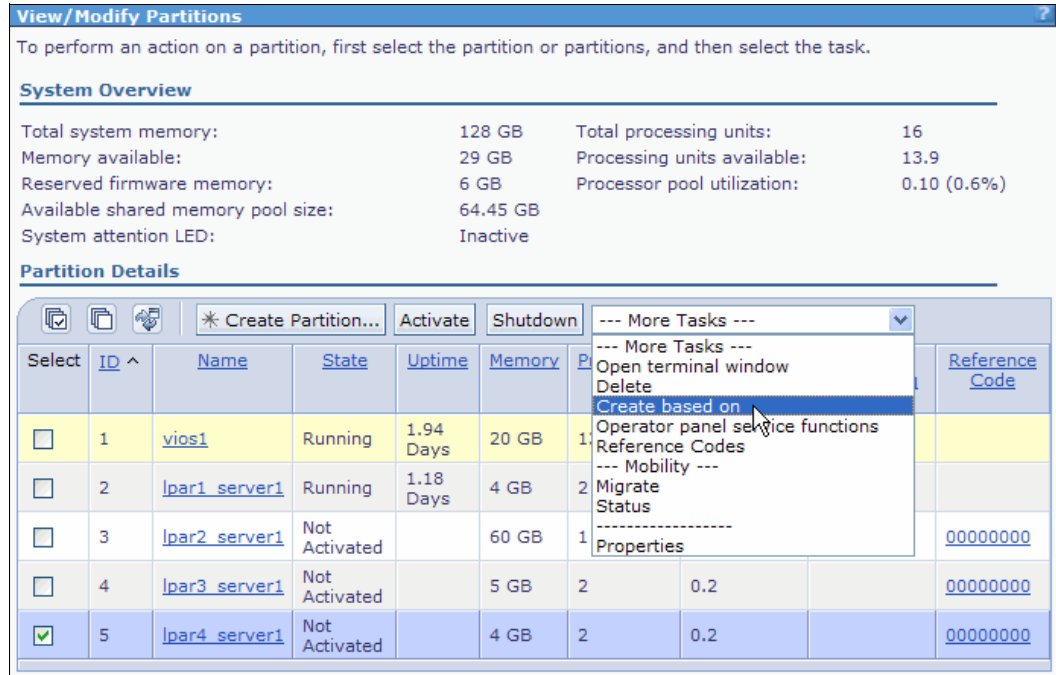

Figure 4-48 The Create based on selection from the More Tasks drop-down menu
3. In the **More Tasks** drop-down menu in the work area, select **Create based on** as shown in Figure 4-48.